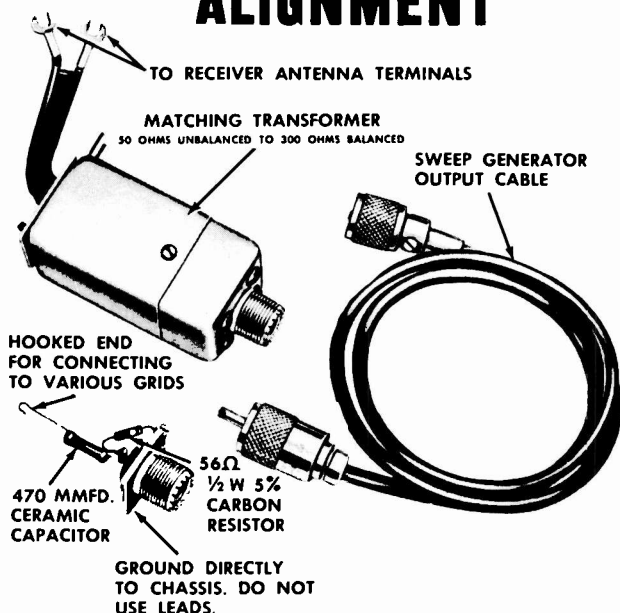
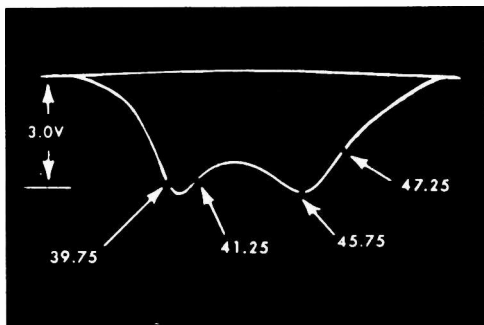

Fig. 4 IF-RF Alignment Fixtures
Fig. 5 4th IF Response
3. Feed the sweep generator through the special terminating network shown in Fig. 4 to point "G" (Pin 1 of the 3rd IF). Adjust generator to obtain a response similar to Fig. 5 with a detector output of 3 volts peak to peak. Do not exceed this level during any of the adjustments.
4. Set the marker generator to 45.75 Mc and alternately adjust the top and bottom cores of the 4th IF for maximum gain and symmetry with the 45.75 Mc marker positioned as shown in Fig. 5. The two peaks must be equal in height and the high frequency peak